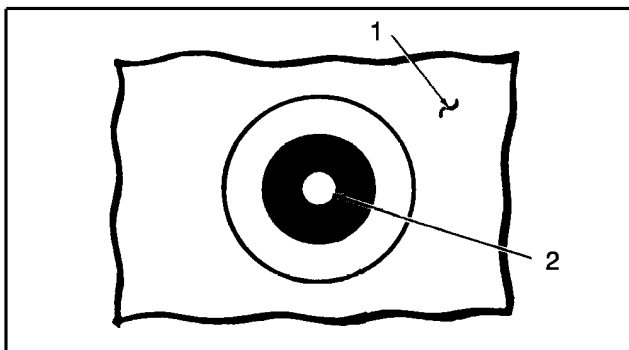

Figure 6 Test Indicator Green Dot Visible
1. GREEN DOT VISIBLE (Figure 6)